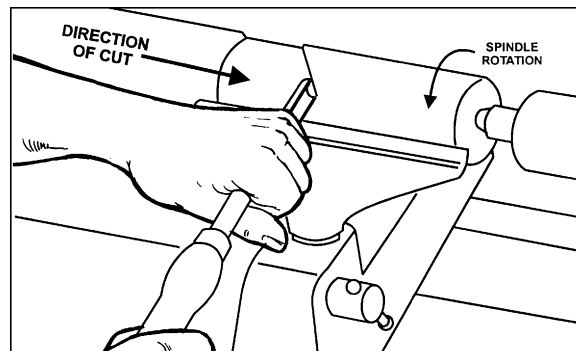

Figure 33
3. Beginning about 2" from the tailstock end of the workpiece, roll the flute (hollowed-out portion) of the tool in the direction of the cut. See Figure 33. Make long sweeping cuts in a continuous motion to rough the piece down to a cylinder.